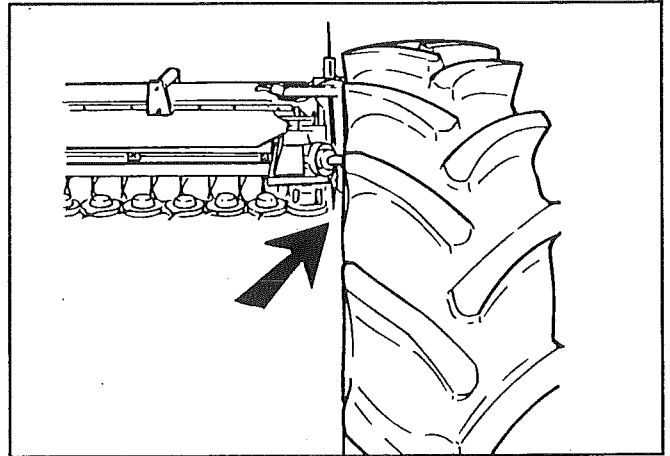

Fig. 4
- FIG. 4** The machine is swivelled to working position by means of the drawbar's hydraulic cylinder. Then the drawbar is adjusted so that the outer side of the tractor's rear tyre is in line with the point of the blade on the left disc.